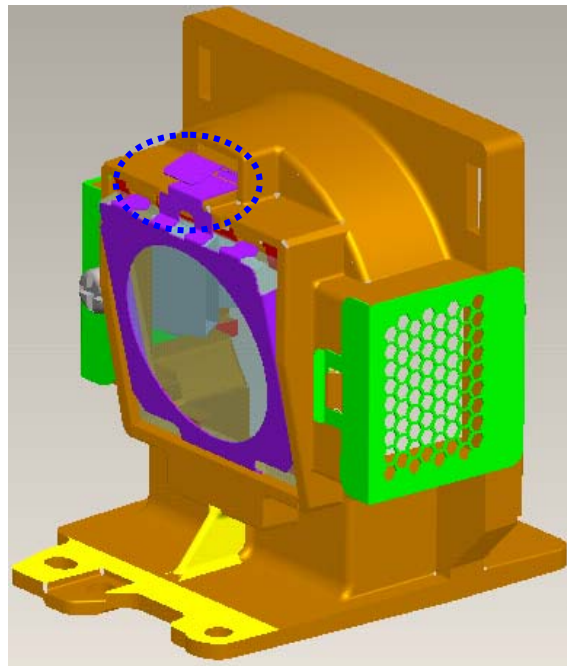

Fig. 1-8
- iii. To make sure F/G Clip hooked well with HLD lamp. (Fig. 1-8)